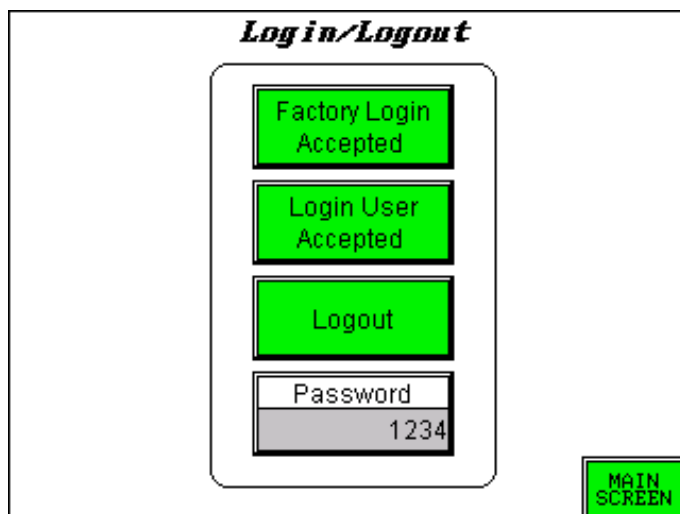

Figure 10 Login/Logout screen
- 1 Press the **Login** button. The Login/Logout screen (Figure 10) appears.